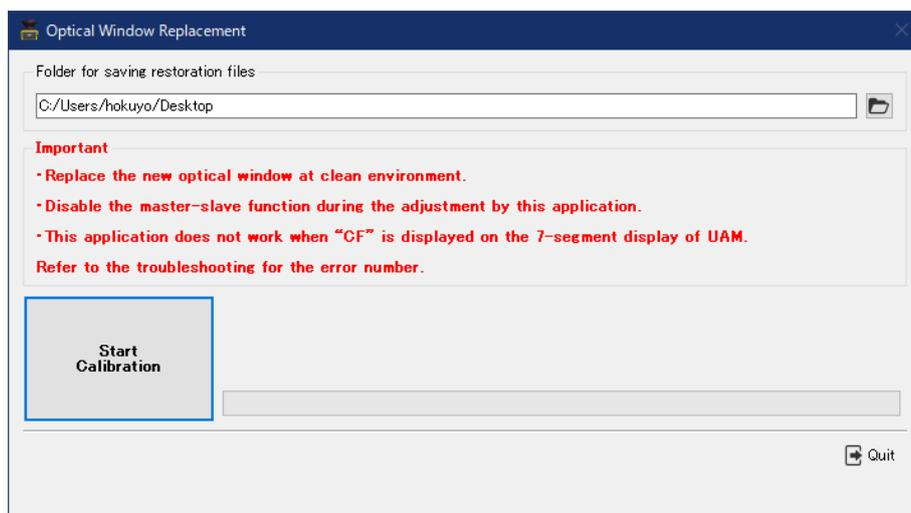
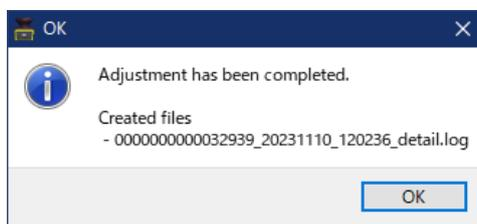

Figure 8-2 Optical Window Adjuster
Figure 8-3 Adjustment completed display
- c) Start Optical Window Adjuster. Window as shown in figure 8-2 will appear.
- g) When adjustment is complete, dialog box as shown in Figure 8-3 will appear. Click the OK button and then click disconnect button (Figure 8-2). Remove the USB cable. UAM will switch to normal operation. Retry the adjustment after checking the optical window and USB connection if an error dialog as shown in Figure 8-4 is displayed. If adjustment fails even after repeated trial contact the nearest distributor or sales representative for support. Send the log file and calibration data file for investigating the cause of failure in such case.